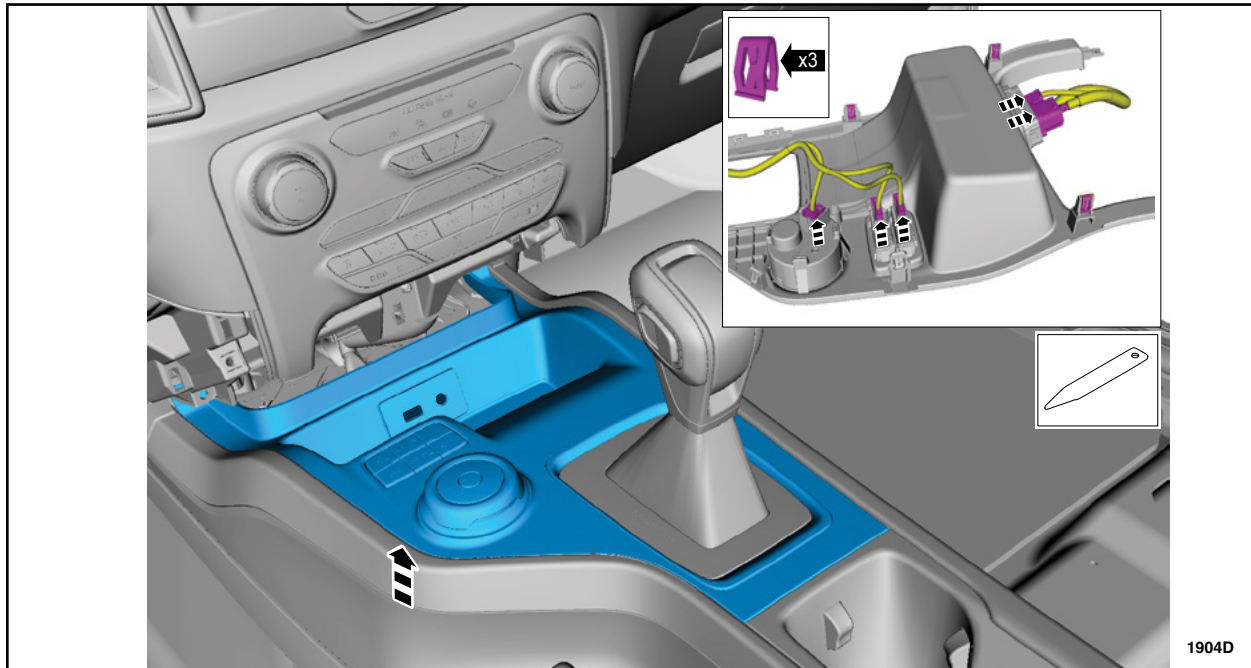

FIGURE 5
5. Using a plastic trim tool, release the retainers, disconnect the electrical connectors and remove the floor console upper trim panel. See Figure 5.
11. Install the floor console upper trim panel. See Figure 5.